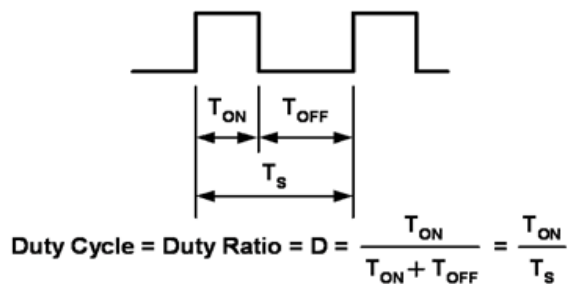

Figure 14.
The method of pulsing the current through the LEDs is known as Pulse Width Modulation (PWM) and has become the preferred method of changing the light level. LEDs being a silicon device, turn on and off rapidly in response to the current through them being turned on and off. The switching time is in the order of 100 nanoseconds, this equates to a maximum frequency of 10 Mhz, and applications will typically operate from a 100 Hz to 100 kHz. Below 100 Hz the human eye will detect a flicker from the light emitted from the LEDs. Between 500 Hz and 20 kHz the circuit may generate audible sound. Dimming is achieved by turning the LEDs on and off for a portion of a single cycle. This on/off cycle is called the Duty cycle (D) and is expressed by the amount of time the LEDs are on (T_{ON}) divided by the total time of an on/off cycle (T_s) (Figure 14).